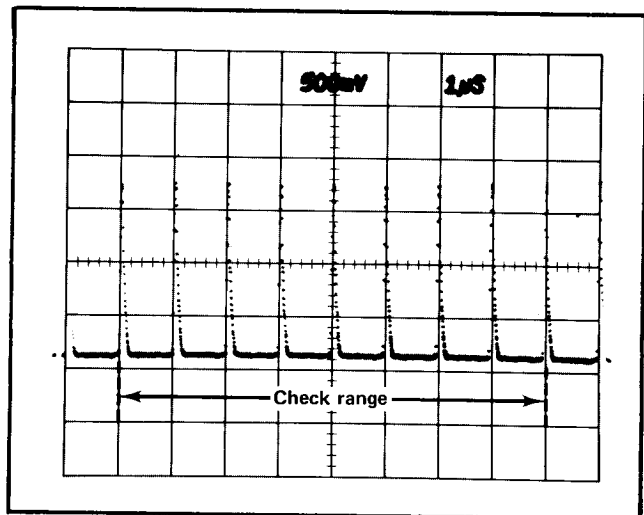

Fig. 5-3. Correct TIME/DIV check range. One μs period markers are shown.
e. CHECK that the TIME/DIV accuracy is within 3% (0.24 div) for all ranges according to Table 5-2. Perform all measurements from graticule line 1 to graticule line 9 (8 div range). See Fig. 5-3 which shows the 1 μs/div measurement. The check should be made at each end of the TIME-DISTANCE scale.